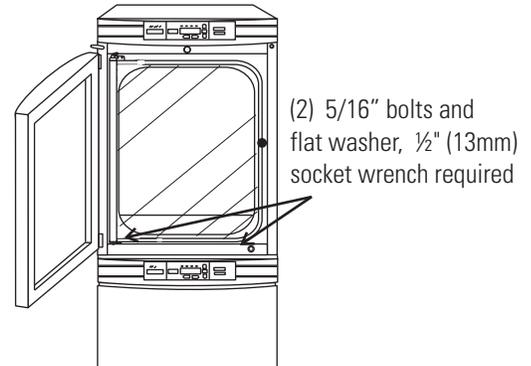

Figure 1-7. Align Slots and Bolts
5. Align the sides of the top unit and bottom unit. Slide the top unit forward until the slots in the base of the top unit align with the 5/16"-18 stacking bolts in the exterior top of the bottom unit (Figure 1-7).
8. From the unit front, secure the base of the top unit to the exterior top of the bottom unit by tightening the 5/16-18 stacking bolts using a 1/2" (13 mm) wrench or suitable tool. Refer to Figure 1-7.